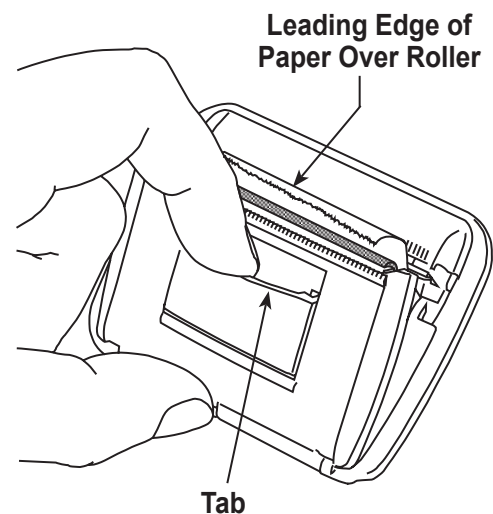

Figure 14
1. Remove the cover on the printer by pulling out on the tab as shown in Figure 14.